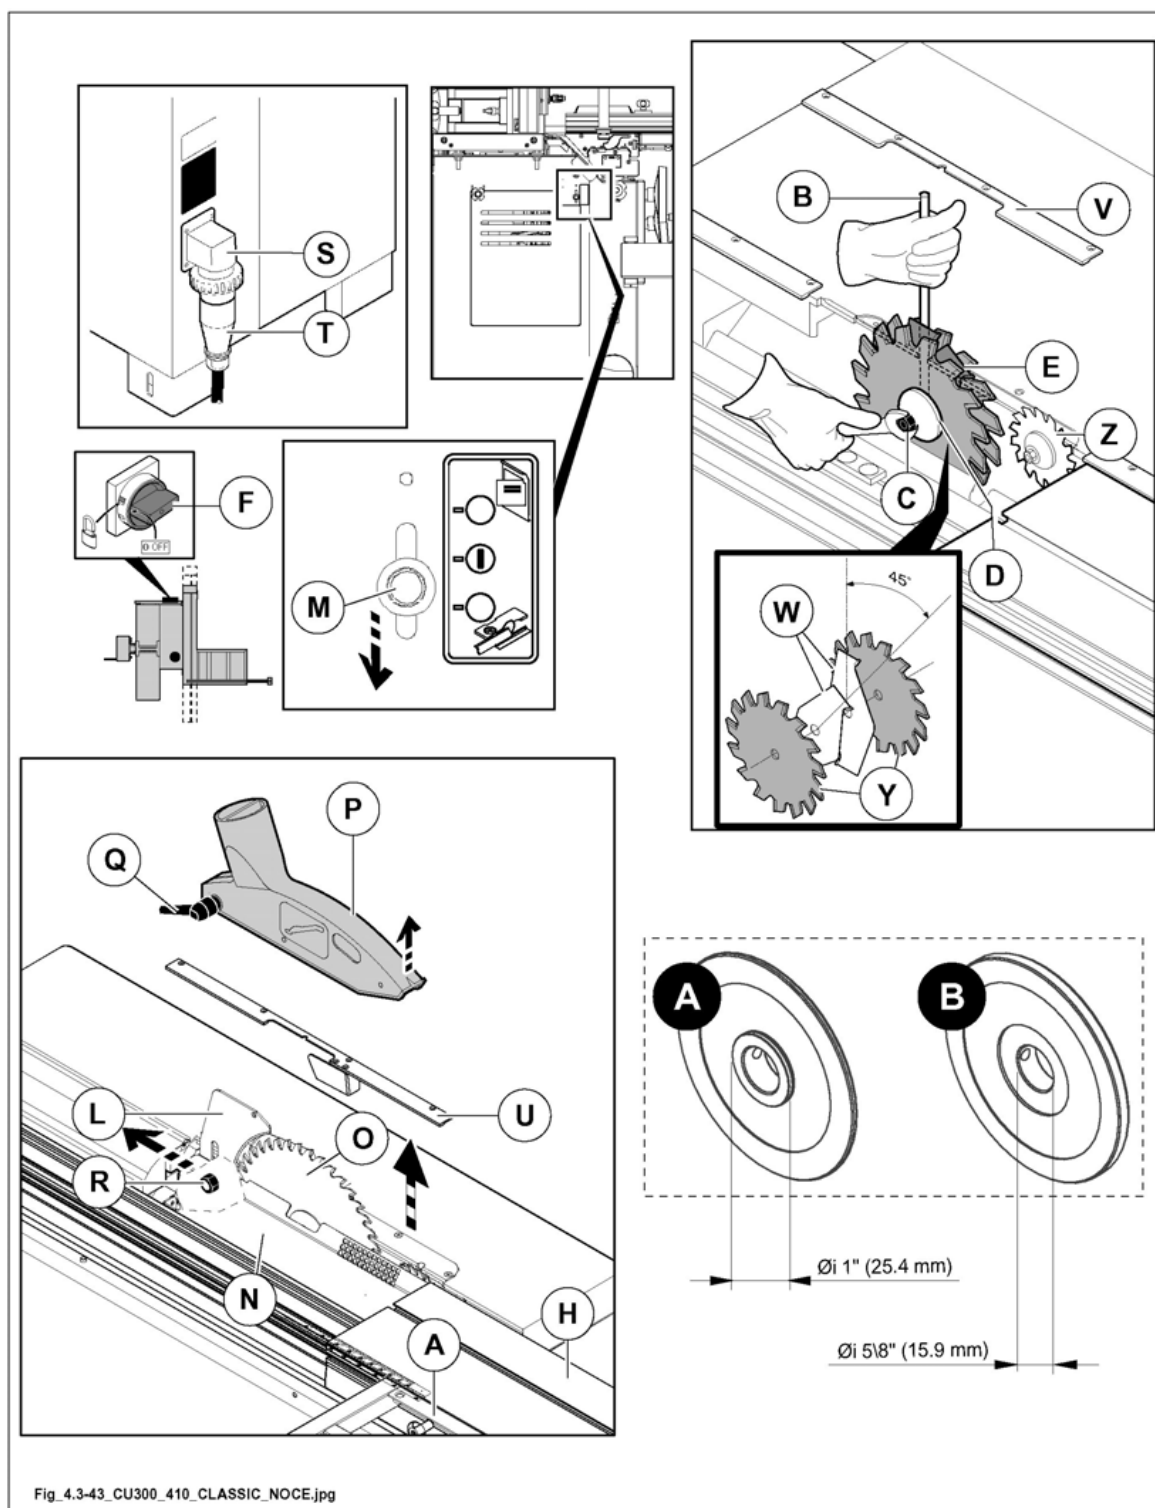

Fig. 4.3-43
U.S.A. and CANADA version: before carrying out maintenance operations, adjustments or to dismount any machine member turn main switch (F fig. 4.3-43) to 0, lock it then indicate this with a sign.
- 2) Position the squaring frame (A fig.4.3-43) as shown in the figure and translate the wagon (H fig.4.3-43) completely to the right.
- 3) Lower the lever (M fig.4.3-43) and open the guard (N fig.4.3-43).
- 4) Fit pin (B fig.4.3-43) into the saw shaft pulley hole.
(U.S.A. and CANADA version) a limit switch ensures that with guard (N fig. 4.3-43) open the motor can not be started.
the locking nut (C fig. 4.3-43) of the saw blade is counter-clockwise; to unscrew it turn it clockwise.
- Loosen the lock nut (C fig. 4.3-43) using a 24 mm hex wrench and remove flange (D fig. 4.3-43).
- Remove the hole cover (U fig. 4.3-43).
- Remove the saw blade (O fig. 4.3-43).
- Mount the hole cover (V fig. 4.3-43).
- In sequence mount the blades (E fig. 4.3-43), the flange (D fig. 4.3-43) and the nut (C fig. 4.3-43) (to avoid possible vibrations carefully clean the "DADO SET" blades and the flange D).
- Tighten the nut using the 24 mm wrench and the pin (B fig. 4.3-43).
- Lower the engraver (Z fig. 4.3-43) completely, as described in Chapter 6.
the cutters (W fig. 4.3-43) must be positioned inside the blades (Y fig. 4.3-43) and rotated 45° respectively. Machining without external blades (Y fig. 4.3-43) is prohibited.
for safety reasons you must close guard (N fig. 4.3-43), otherwise:
- Remount protection (P fig. 4.3-43).
The guard (P fig. 4.3-43) must always be mounted and must be positioned in such a way as to completely cover the tool.